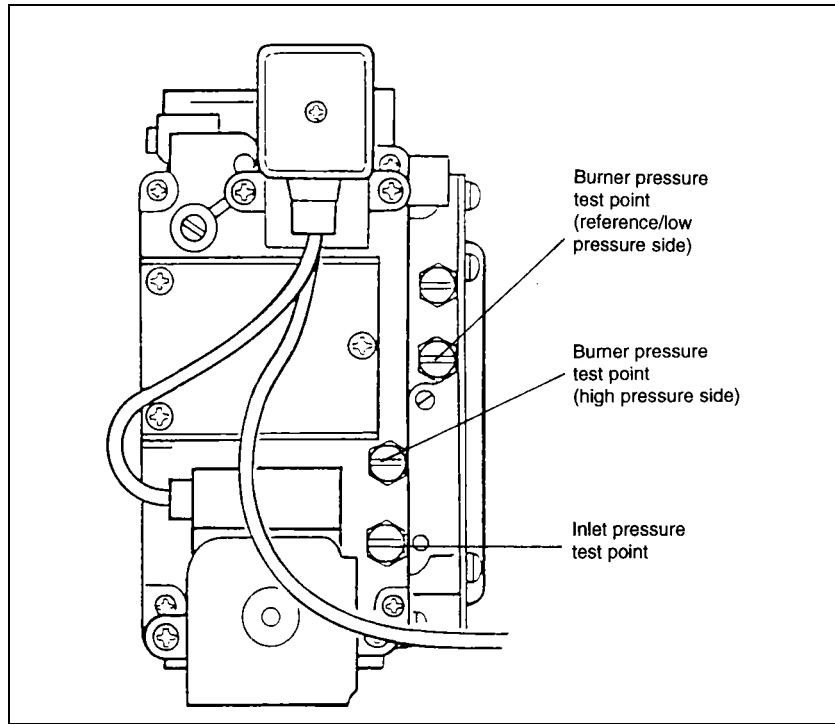

FIG. 13 GAS CONTROL VALVE
1. Turn off the gas service cock. Fit a pressure gauge to the gas inlet pressure tapping on the gas control valve. Connect a differential pressure gauge or ‘U’ tube manometer between the burner pressure gauge tapping (high pressure side) and the reference pressure tapping (low pressure side) on the gas valve ( see Fig. 13).